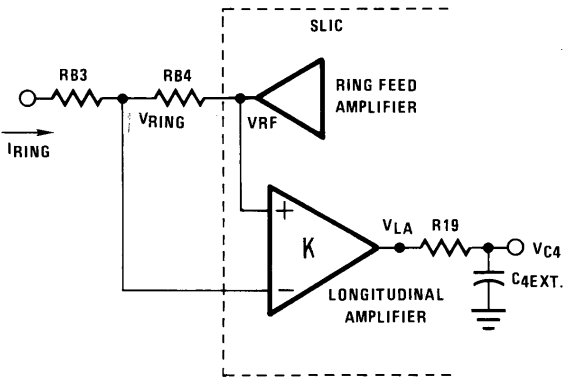

FIGURE 2.
For Case 1, refer to Figures 2 and 3. In this situation the desired result is obtained, namely, that ring sync occurs during the negative peak of  $V_{C4}$ . This helps achieve ring trip faster because, once a subscriber goes off-hook, a negative DC shift is observed at  $V_{C4}$ . This shift approaches a comparator threshold in the ring trip detection circuit. If the negative peak of  $V_{C4}$ (AC) precedes the negative going DC shift at  $V_{C4}$ , one can achieve ring trip in a shorter time frame. Also this configuration allows ring trip to occur for long lines, in the order of 3000Ω. At these line lengths, the DC negative shift will never reach the threshold because there is not enough DC current through the sense resistor, RB4. However, the negative peak of  $V_{C4}$  (AC) will cross the ring trip detector comparator threshold and ring trip will occur.